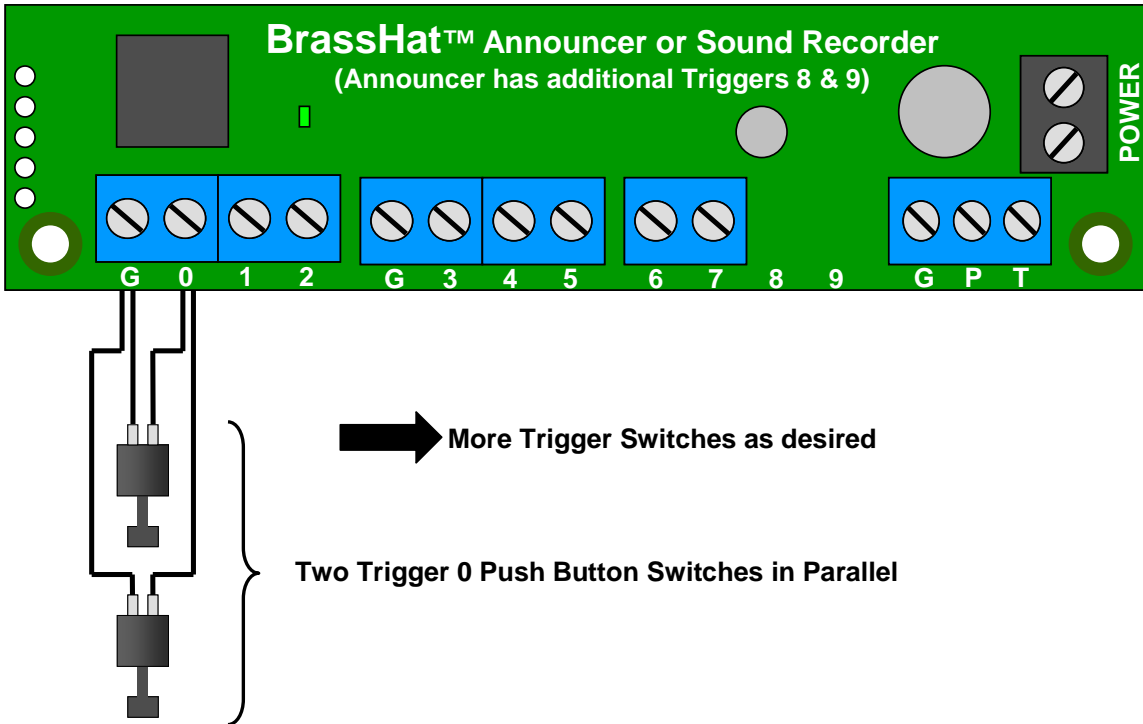

Figure 2: Push Button Triggers in Parallel for Trigger Input 0
You can have several switches activate the same Trigger Input. Connect each switch in parallel as shown in **Figure 2**. You can have as many switches in parallel as you wish. If any of the parallel switches are closed, the Trigger Input will activate.
You can have several **Infrared Detectors** activate the same Trigger Input. Connect each in parallel in the same way that switches were connected in parallel in **Figure 2**: connect each **Infrared Detector's** **BLACK** wire to Ground (G) and its **YELLOW** wire to the same Trigger Input. Each **Infrared Detector's** **RED** wire is connected to the Power Supply, and the Power Supply's Ground is connected to the **Sound Recorder's** Ground (G).